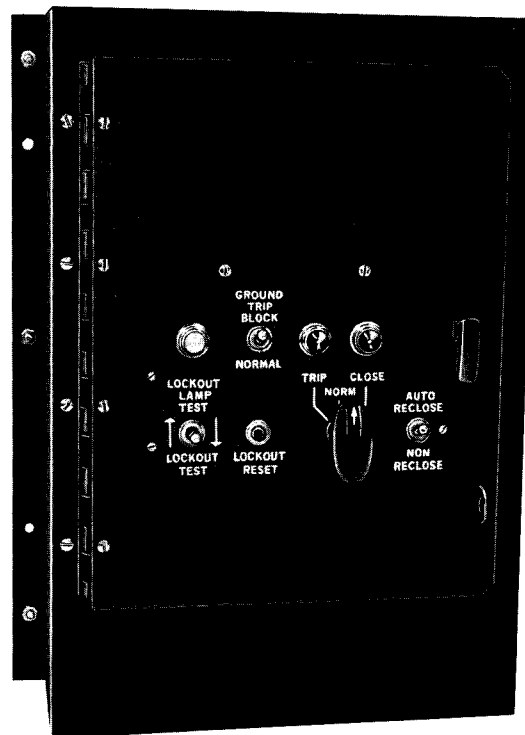

Fig. 8. Manual Operating Controls.
2. Close and open the recloser by means of the manual-electric TRIP-CLOSE switch on the door of the solid-state control unit (see Figure 8).